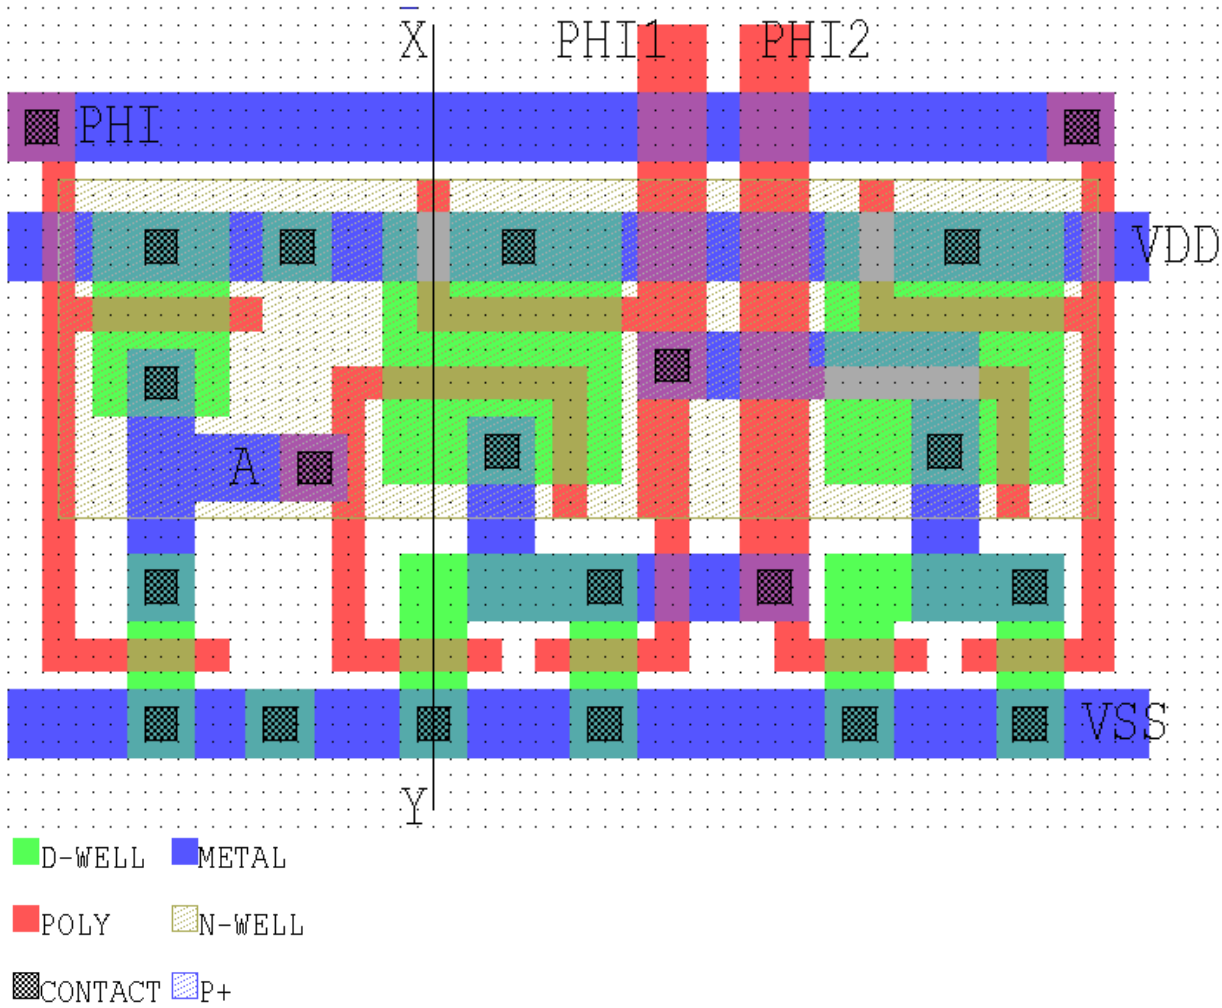

Fig. 1.1
1. Fig. 1.1 on p. 8 shows the layout of a circuit fabricated in the n-well CMOS technology similar to that used in Lab 2. The layout is not complete: the p+ mask is not shown. Draw the outline of this region (or regions) on the layout, and use cross-hatching to indicate the interior of the region. (*Note: In this CMOS technology, by default any region that is not covered by the p+ layer receives the n+ implant*) *4 marks*
2. In the space provided next to the layout in Fig. 1.1, carefully sketch a cross-section through the integrated circuit along line X-Y (i.e., show how the IC would look if cut along line X-Y and viewed from the side). Indicate the n-well and n+ and p+ regions on your cross-section. *16 marks*
3. a) Underneath the layout of Fig. 1.1, draw the circuit schematic corresponding to the layout. Show the substrate (body) connection for each transistor. *8 marks*
- e) In the layout of Fig. 1.1, is intermediate output A at midrail ($V_{DD}/2$) when the input PHI is midrail? Explain. *3 marks*
- f) The layout of Fig. 1.1 has been designed to give equal rise and fall times for outputs PHI1 and PHI2 when driven by a square wave input clock PHI. However, this has been accomplished at the expense of a large layout area. Sketch a schematic for an alternative circuit that could provide the same logic function as Fig. 1.1 and also provide symmetric rise and fall times when driven by a square wave input clock, but use a smaller layout area without reducing switching speed. No layout is required, just the schematic. *8 marks*
4. The layout of Fig. 1.1 is prone to latch-up. Describe how the layout should be modified to improve latch-up immunity. Draw a sketch to illustrate your answer if you wish. *5 marks*